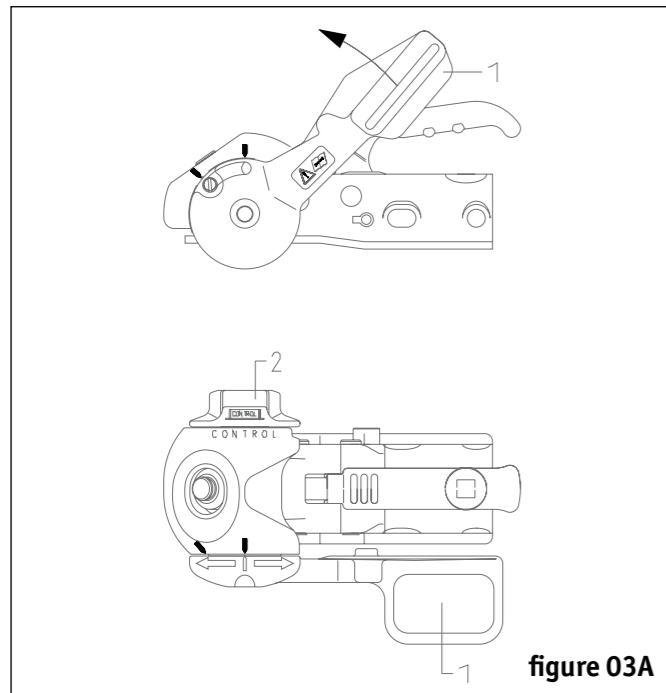

figure 03A
To couple or uncouple the caravan, the handle of the stabiliser (1) must be in the fully upright (open) position and the hand wheel (2) must be turned open (anti-clockwise) until it reaches the stopper (fig. 03A)
**N.B. Do not use excessive force when turning the hand wheel (2) against the stopper.**